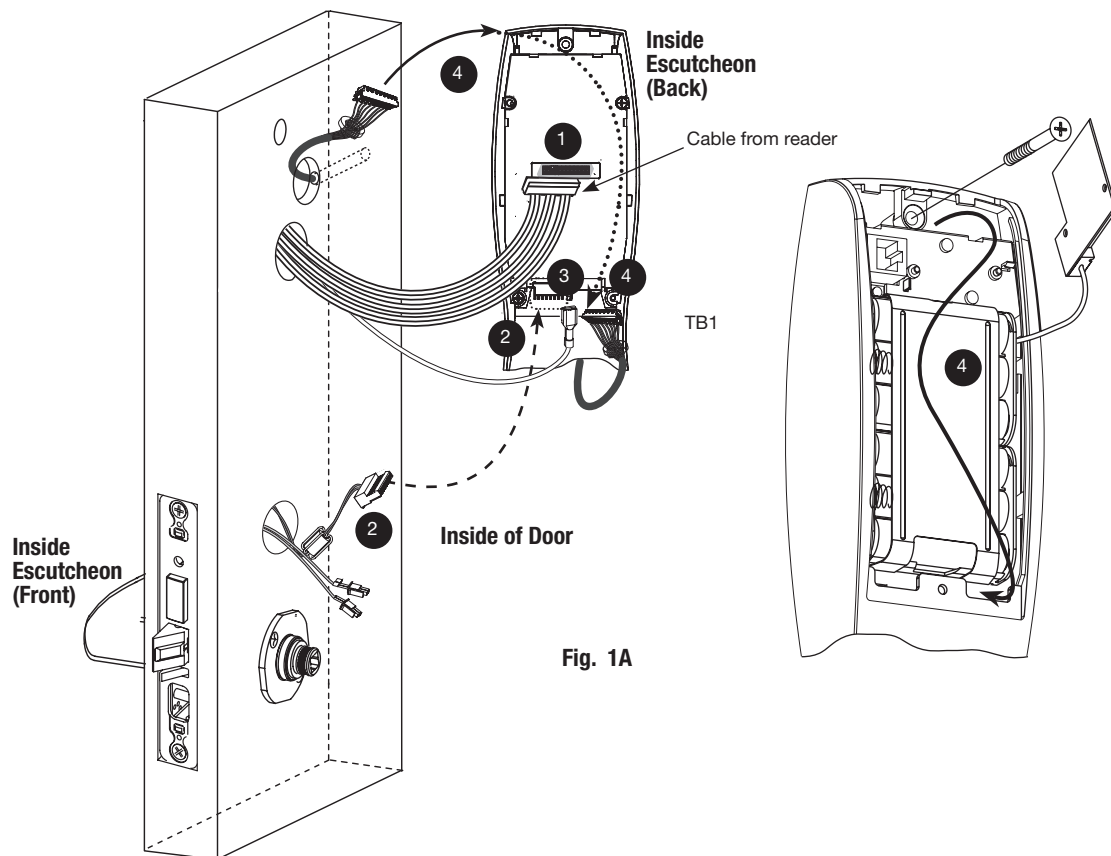

Fig. 1A
Before the controller is attached to the door (Fig. 1A):
- 2 Attach the connector from the lock into the bottom of the circuit board (TB2), Fig. 1A.